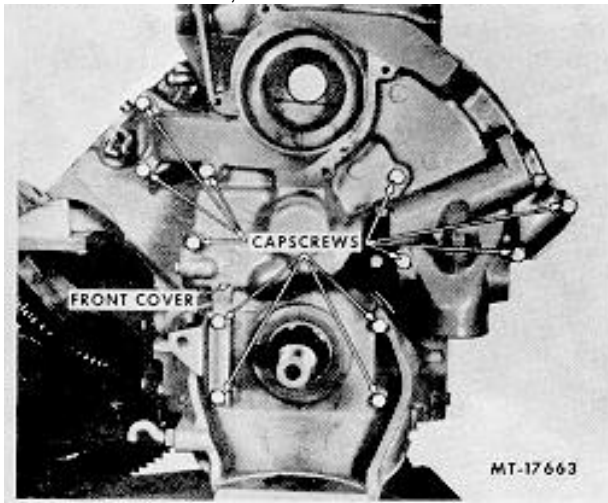
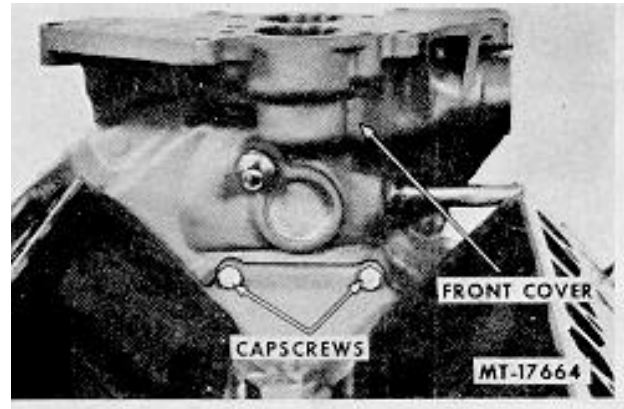
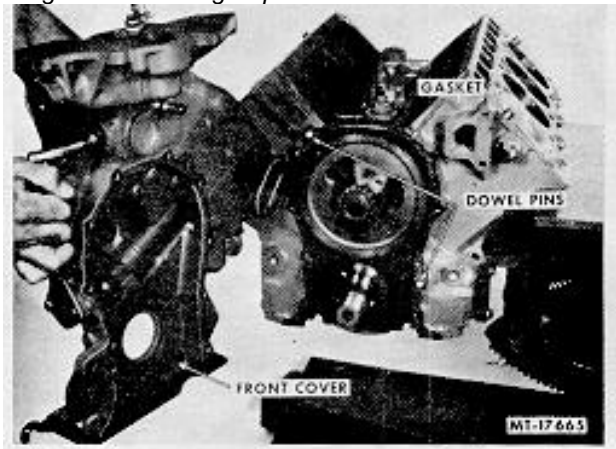

Fig. 45 Removing Capscrews In Front Of Front Cover
Fig. 46 Removing Capscrews in Rear of Front Cover
Fig. 47 Front Cover Removal
48. Remove the engine front cover mounting capscrews from both the front (Fig. 45) and the back (Fig. 46) of the cover. Remove the front cover and gasket (Fig. 47).